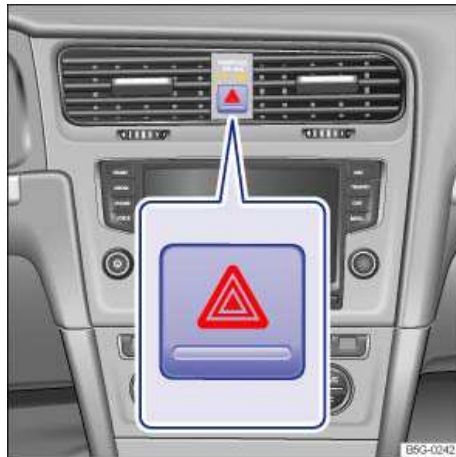

Fig. 163 In the center of the instrument panel: Button for the emergency flashers.
2. Switch on emergency flashers by pressing the  button ⇒ fig. 163.